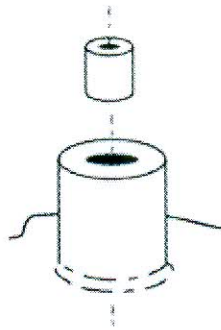

Figure 4 Press-fit a metal shaft into a plastic boss
- [c] Given a metal insert with outer diameter 12.7mm, is to be press-fit into a plastic boss with outer diameter 19.05mm (Figure 4). Determine the maximum interference of the assembly using a 2% allowable strain for that plastic boss. A Poisson's ratio for the boss is 0.35 (Please analyze by using the equation given in Appendix 4).